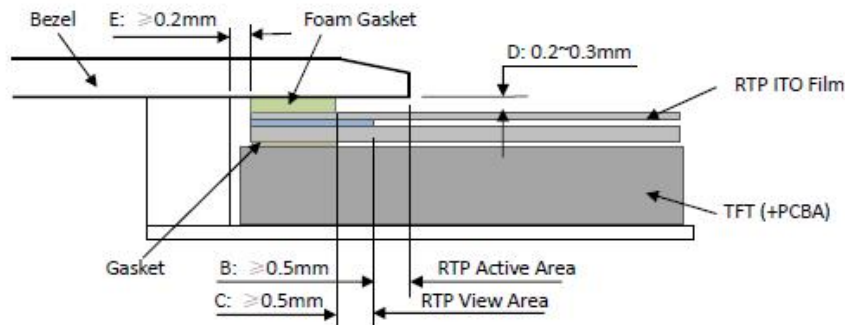

Figure 4
- It should bezel touching the RTP Active Area (A.A.) to prevent abnormal touch.It should left gab  $D=0.2\sim 0.3\text{mm}$  in between. (Figure 4)
- Outer bezel design should take care about the area outside the A.A. Those areas contain circuit wires which is having different thickness. Touching those areas could de-form the ITO film. As a result bezel the ITO film be damaged and shorten its lifetime. It is suggested to protect those areas with gasket (between the bezel and RTP).The suggested figures are  $B\geq 0.50\text{mm}$ ;  $C\geq 0.50\text{mm}$ . (Figure 4)
- The bezel side wall should keep space  $E= 0.2 \sim 0.3\text{mm}$  from the RTP. (Figure 4)
为避免面框直接压在动作区(A.A.)上造成误动作，面框与电阻触摸屏(RTP)之间应留有一定的空隙  $D=0.2\sim 0.3\text{mm}$  之间。(附图 4)
设计面框时，要注意用面框保护触摸屏四周的非保证操作区域，因为布线区域在此处形成一台阶，在此区域附近操作时 ITO Film 变形较大，容易导致 ITO 损坏而降低寿命。为保护 RTP 和避免误操作，在 RTP 与面框之间垫缓冲物(Gasket)，我们建议设计面框应覆盖动作区的边缘，面框边缘到 V.A. 区的距离  $B\geq 0.50\text{mm}$ ；垫圈内边缘到 V.A. 区的距离  $C\geq 0.50\text{mm}$ 。(附图 4)
在设计面框与 RTP 组装时，应考虑到面框内侧与 RTP 外侧的间距  $E\geq 0.2\text{mm}$ 。(附图 4)